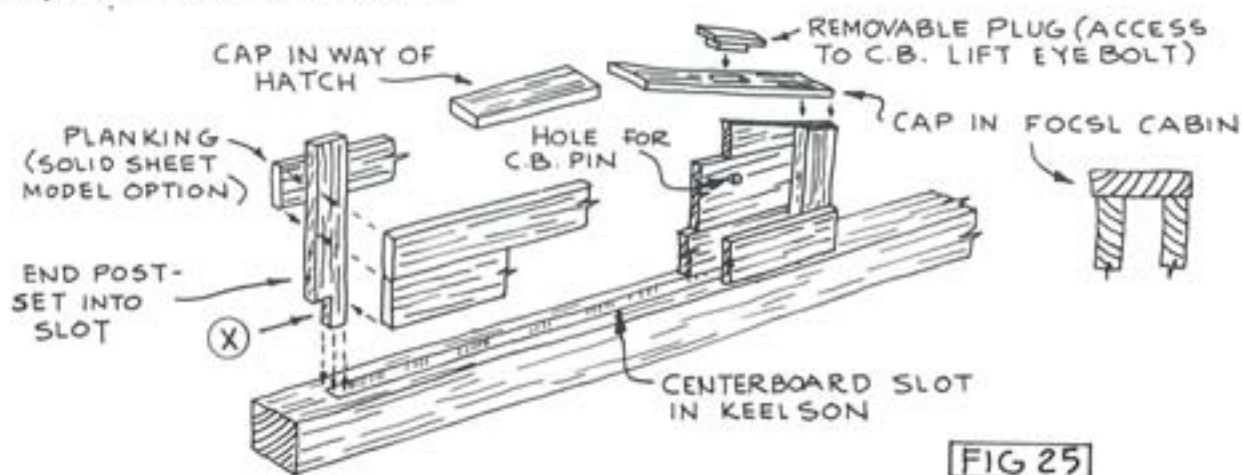

FIG 25
**Centerboard case** — Construct and install as shown in Figure 25. Notice that the bottoms of the vertical end pieces, X, fit into the centerboard slot in the keelson for rigidity. The case sides can be planks, per the real boat or a solid sheet on the model. The planks are more appropriate because the lowest plank is thicker than the others.